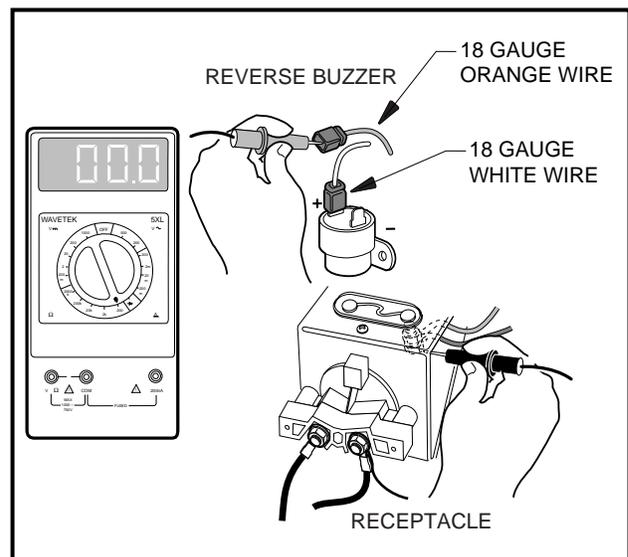

Figure 11-10 Reverse Buzzer Test - Orange Wire
5. Disconnect the 18 gauge orange wire at the reverse buzzer. Place the black (-) probe of a multimeter (set to Ω) on the receptacle fuse assembly at the 10 gauge red wire and 18 gauge orange wire connection, and place the red (+) probe on the terminal end of the 18 gauge orange wire at the reverse buzzer. The multimeter should indicate continuity. If not, replace the 18 gauge orange wire (**Figure 11-10, Page 11-9**).